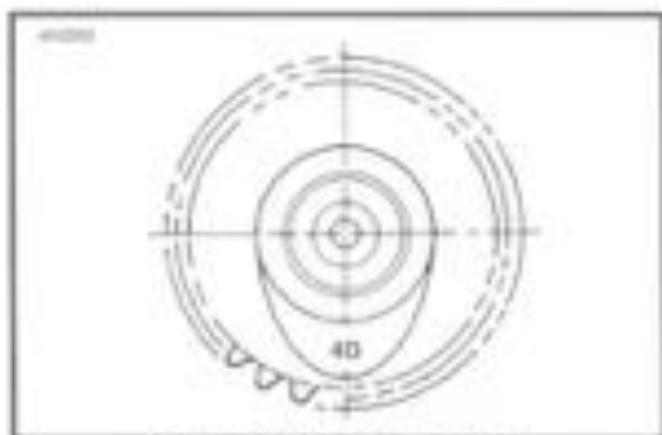
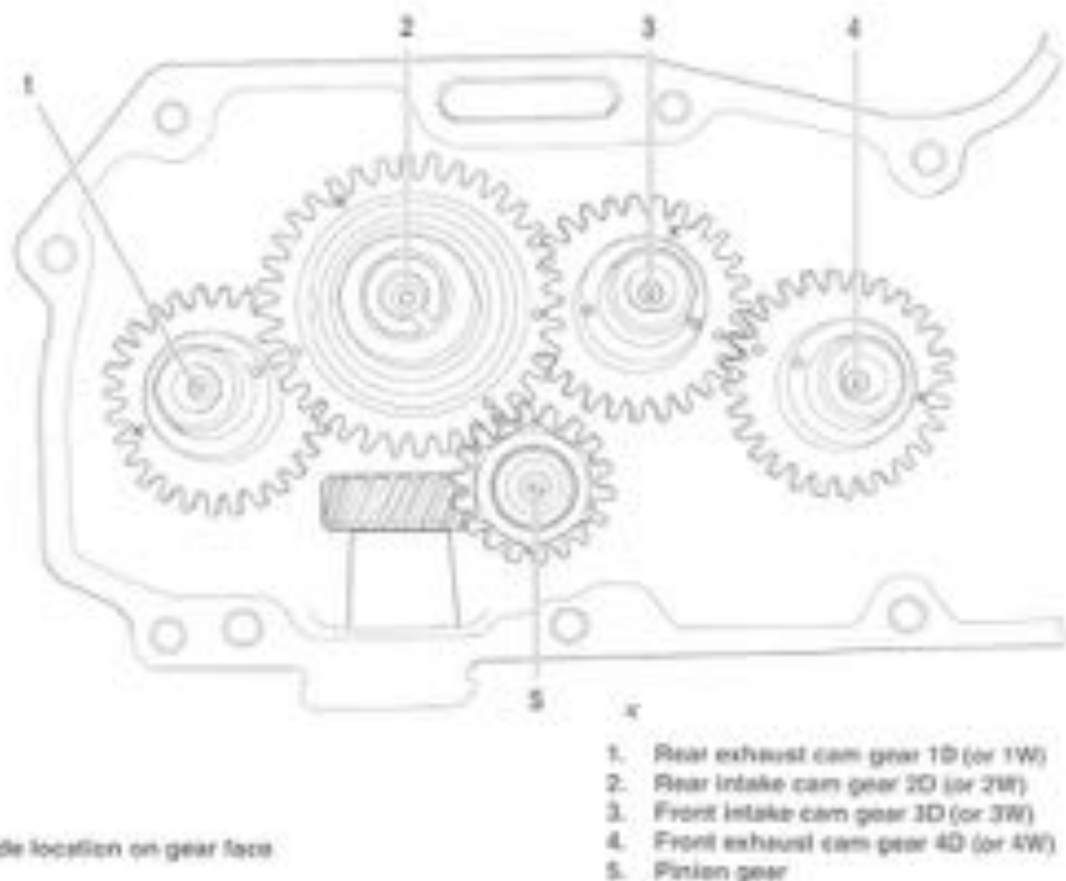

Figure 3-60. Cam Identification
Figure 3-62. Cam and Pinion Gear Color Code Location and Timing Mark Indexing
See Figure 3-60. Cam lobes are stamped with a number (1, 2, 3, or 4) followed by letter "D" or "W". The number identifies the cam lobe function; the letter "D" or "W" indicates model year application:
are replaced, always use the same color code as found on gears being replaced to ensure that the gear operation remains as quiet as possible. See Figure 3-62 for location of cam and pinion gear color codes.
- See CAM AND PINION GEAR IDENTIFICATION, INSPECTION, AND SELECTION, and Figures 3-60 and 3-62. Liberally apply engine oil to bushings, shafts, and gears. Install all cam gears into bushings of right crankcase half, properly aligning timing marks of cam gears and pinion gear as shown in Figure 3-62.